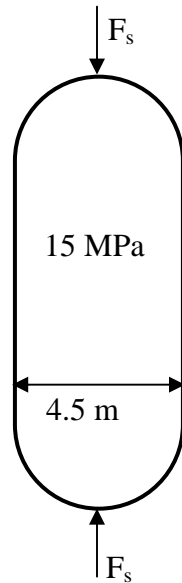

Fig. 1. (not to scale)
- 4) Consider a PWR pressure vessel that operates at 15 MPa and 320°C. The vessel is made of carbon steel, and has a diameter of 4.5 m and a thickness of 200 mm. If due to a seismic event the vessel is also subjected temporarily to an external compressive axial force  $F_s$ , as shown in Figure 1, what is the maximum allowable value of  $F_s$ , so that the Tresca limit for the stresses is not violated? ( $S_y = 270$  MPa for carbon steel at 320°C)